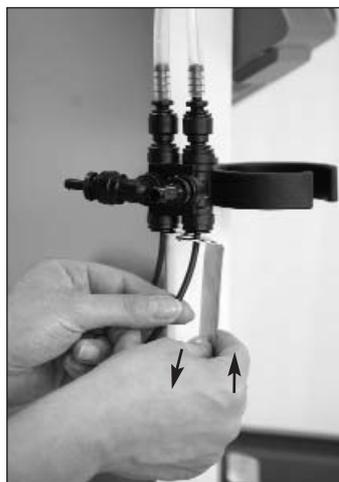

Fig.26
- ☞ Remove both sensors. To remove a sensor, push back the outer ring to release the locking device on the push-in connector, while at the same time pulling the temperature sensor out of the connector, see Fig. 26.